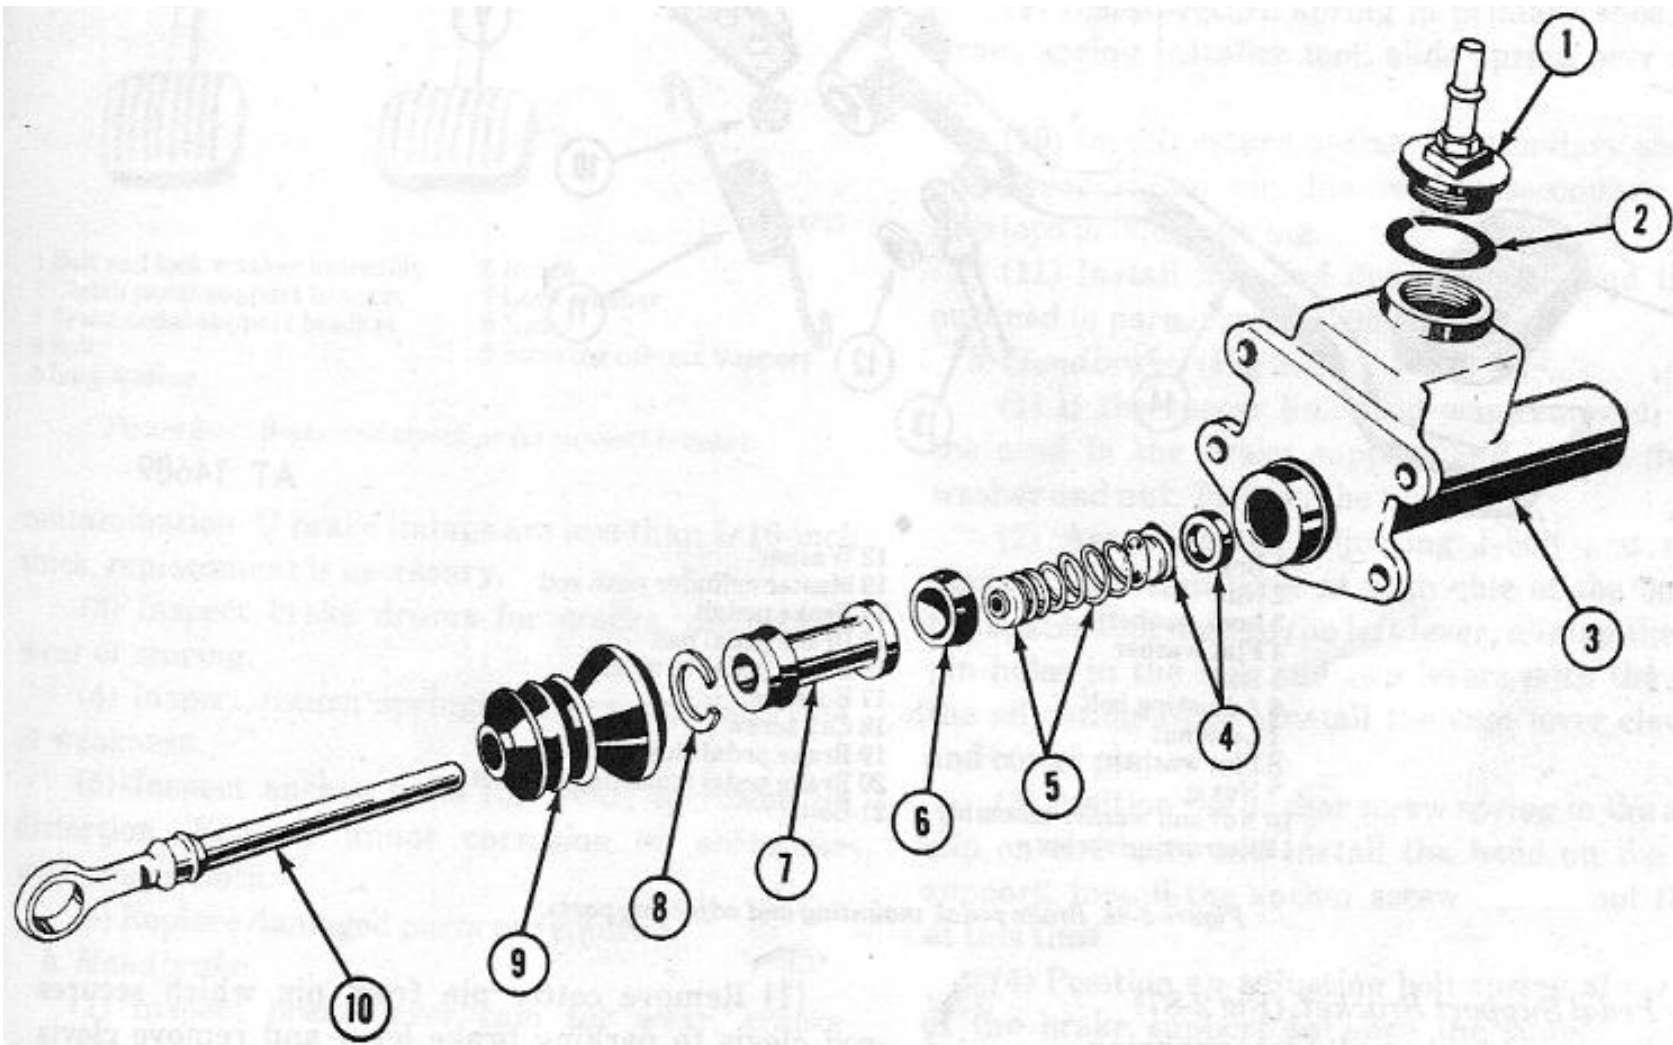

Figure 2-85. Brake master cylinder.
- (4) Master cylinder. (Fig 2-85)